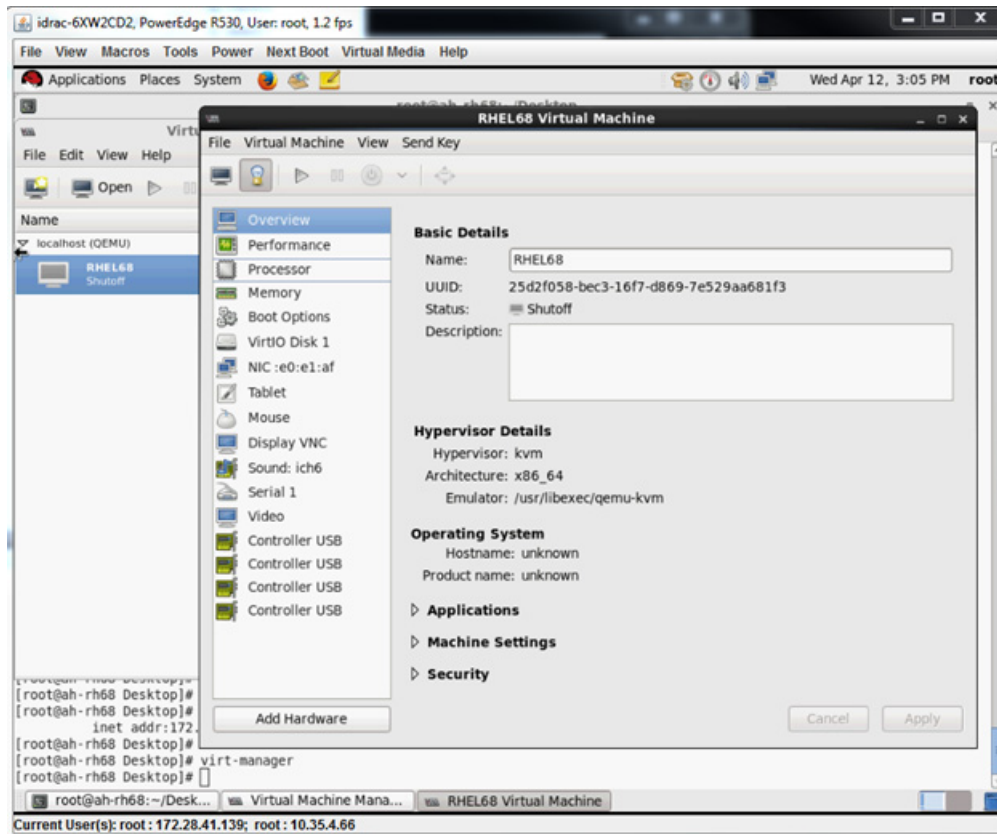

Figure 8-13. RHEL68 Virtual Machine
- a. In the Virtual Machine dialog box (Figure 8-13), click **Add Hardware**.